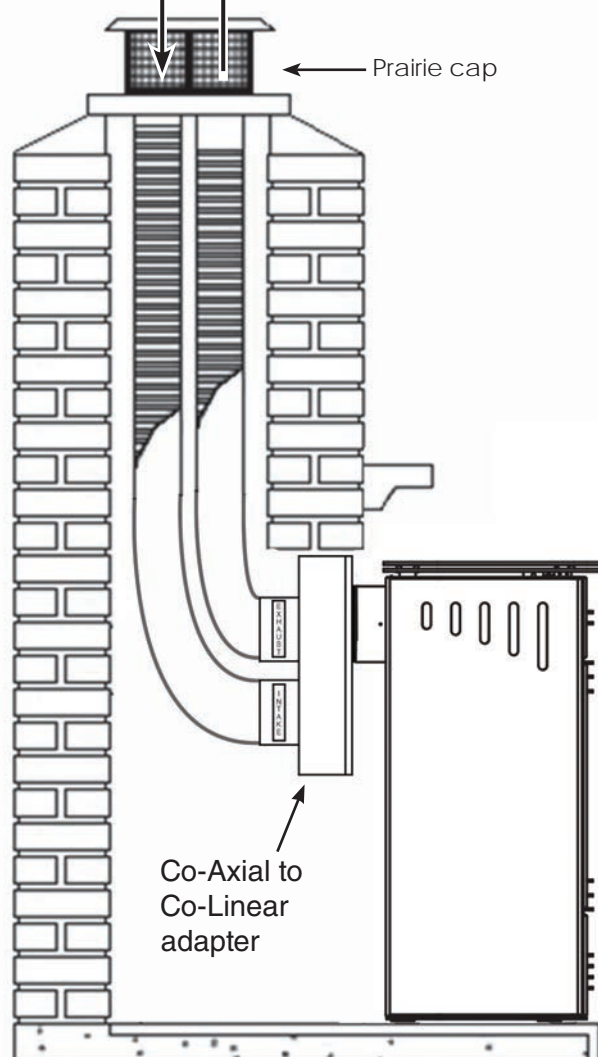

Figure 5: Mirage co-linear venting.
The Mirage 30 can be vented using co-axial components, or co-linear components for venting through an existing fireplace and chimney. Maximum and minimum venting lengths can be found on the venting charts - co-axial (Figure 4) & co-linear (Figure 5).
1. sealing up the existing fireplace opening with a cover or other material, leaving room in the cover or other material to accommodate the adapter so that it is positioned flush (Figure 5) with the cover or other material.